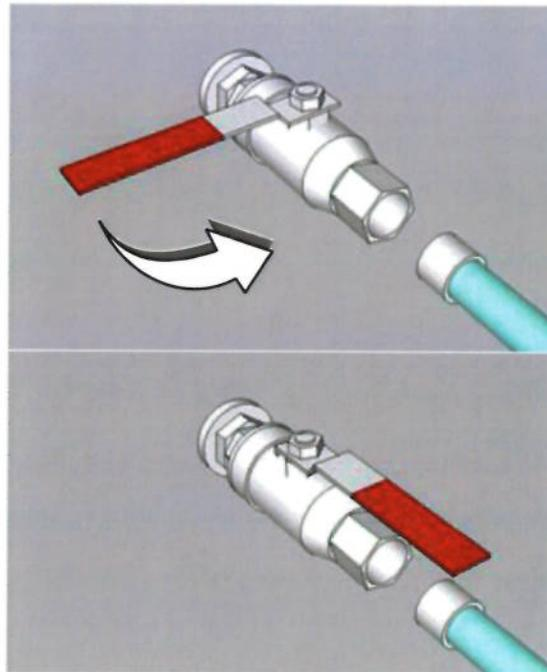

fig.14
- In order to enable the air, sterile air or CO2 inlet, turn the handle (fig.14)